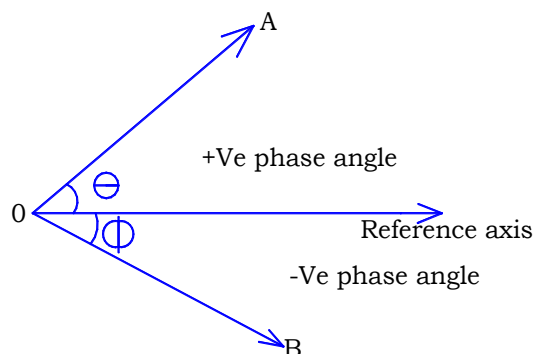

Fig. 5.5
**Phasor Diagram:** Phasor is a vector having both magnitude and direction. The length of the line indicates the magnitude and arrow mark indicates the direction. If the movement is in anti clock wise direction with respect to the reference axis it is taken as positive and if the movement is in clockwise direction it is taken as negative. In fig. 5.5 OA represents vector having phase angle of  $+\theta$  and OB represents vector having phase angle of  $-\Phi$ .